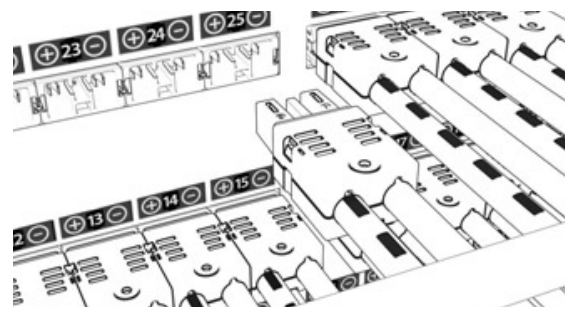

Figure 8. Output Connections
Step 1. Plug in the output cables to the output connection receptacles on the rear of the v30/30 as shown in Figure 8.